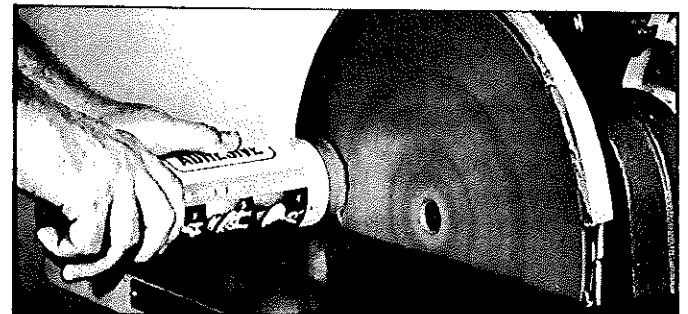

Fig. 11
1. The disc adhesive is applied by holding the stick of adhesive against the disc as it is turning, as shown in Fig. 11. The adhesive should be at least 1/16 of an inch thick on the disc.